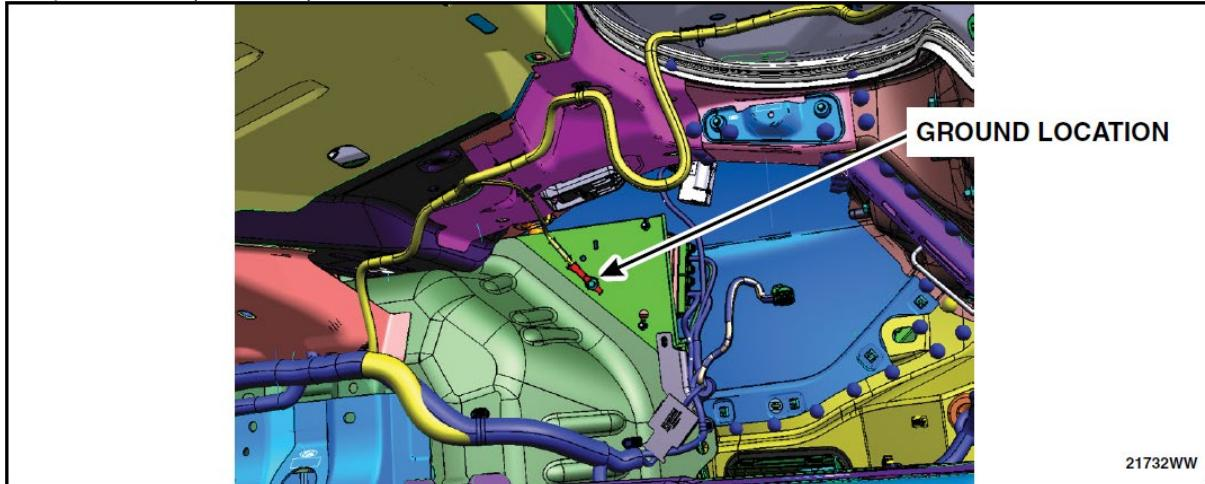

FIGURE 41
55. Remove the existing ground on this section of the harness from the body of the vehicle. Reinstall the ground on the new section of harness to the body of the vehicle. See Figure 41.